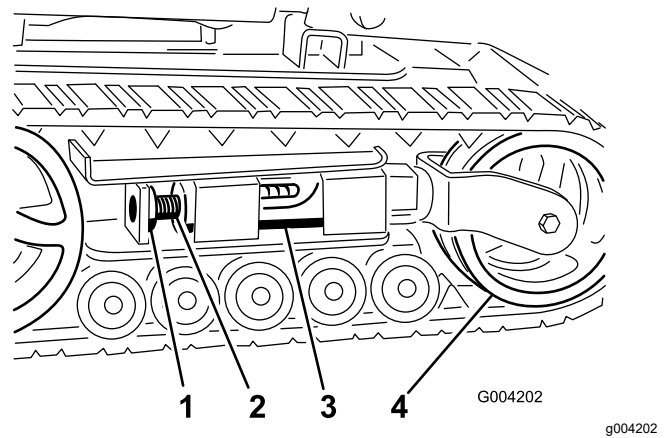
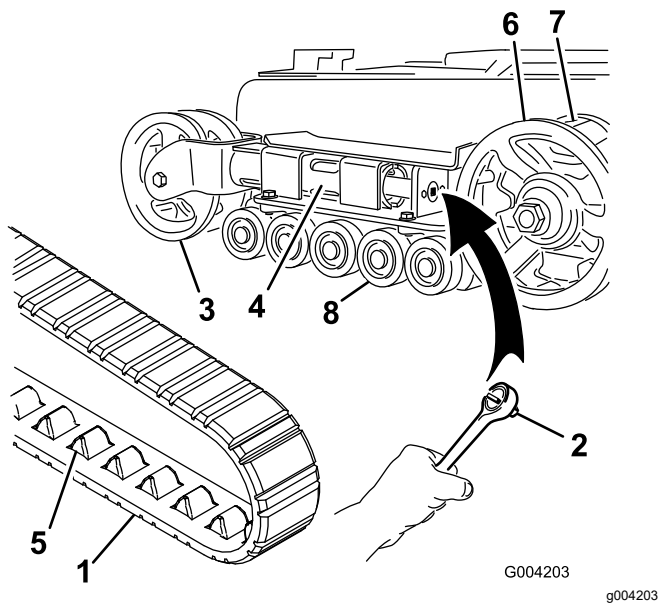
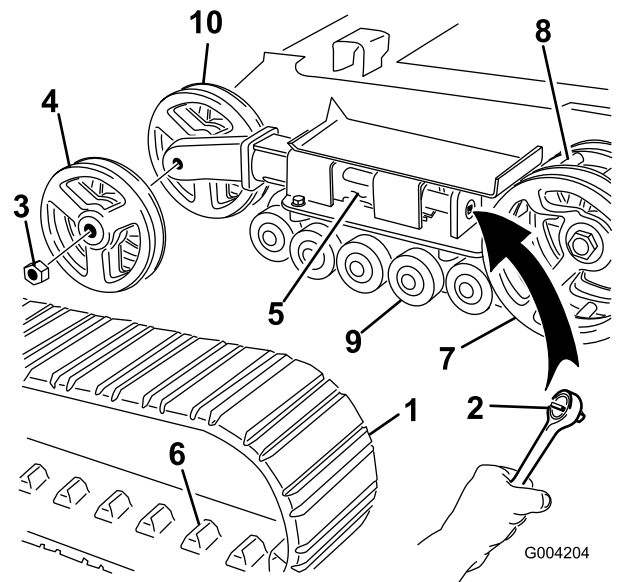

Figure 49
Figure 50
Figure 51
4. Remove the locking bolt and nut (Figure 49).
6. Align the closest notch in the tension screw to the locking bolt hole and secure the screw with the locking bolt and nut (Figure 49).
Note: You have narrow-width tracks if the front tension wheels are mounted inside a fork on the end of the tension tube (Figure 50).
5. Using a 1/2-inch drive ratchet, release the drive tension by turning the tensioning screw clockwise (Figure 49 and Figure 50).
6. Push the tension wheel toward the rear of the unit to move the tension tube against the frame (Figure 50).
8. When the track is off the tension wheel, remove it from the drive sprocket and road wheels (Figure 50).
9. Beginning at the drive sprocket, coil the new track around the sprocket, ensuring that the lugs on the track fit between the cogs on the sprocket (Figure 50).
10. Push the track under and between the road wheels (Figure 50).
Note: You have wide-width tracks if the front tension wheels are mounted on the sides of the end of the tension tube (Figure 51).
5. Using a 1/2-inch drive ratchet, release the drive tension by turning the tensioning screw clockwise (Figure 49 and Figure 51).
6. Push the tension wheel toward the rear of the unit to move the tension tube against the frame (Figure 51).
7. Remove the nut securing the outer tension wheel and remove the wheel (Figure 51).
8. Remove the track (Figure 51).
9. Remove the nut securing the inner tension wheel and remove the wheel (Figure 51).
13. Install the inner tension wheel and secure it with the nut removed previously (Figure 51).
15. Install the new track, ensuring that the lugs in the track fit between the cogs in the middle of the drive sprocket (Figure 51).
16. Install the outer tension wheel and secure it with the nut removed previously (Figure 51).
6. Place the greased road wheel cap over the bolt head (Figure 50).
7. Secure the road wheel cap with the snap ring (Figure 50).